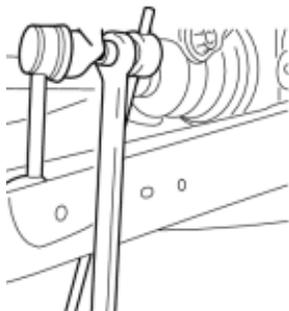

Fig. 4-1
- (a) Remove the nut from the LH and RH end links and discard the nuts (Fig. 4-1).